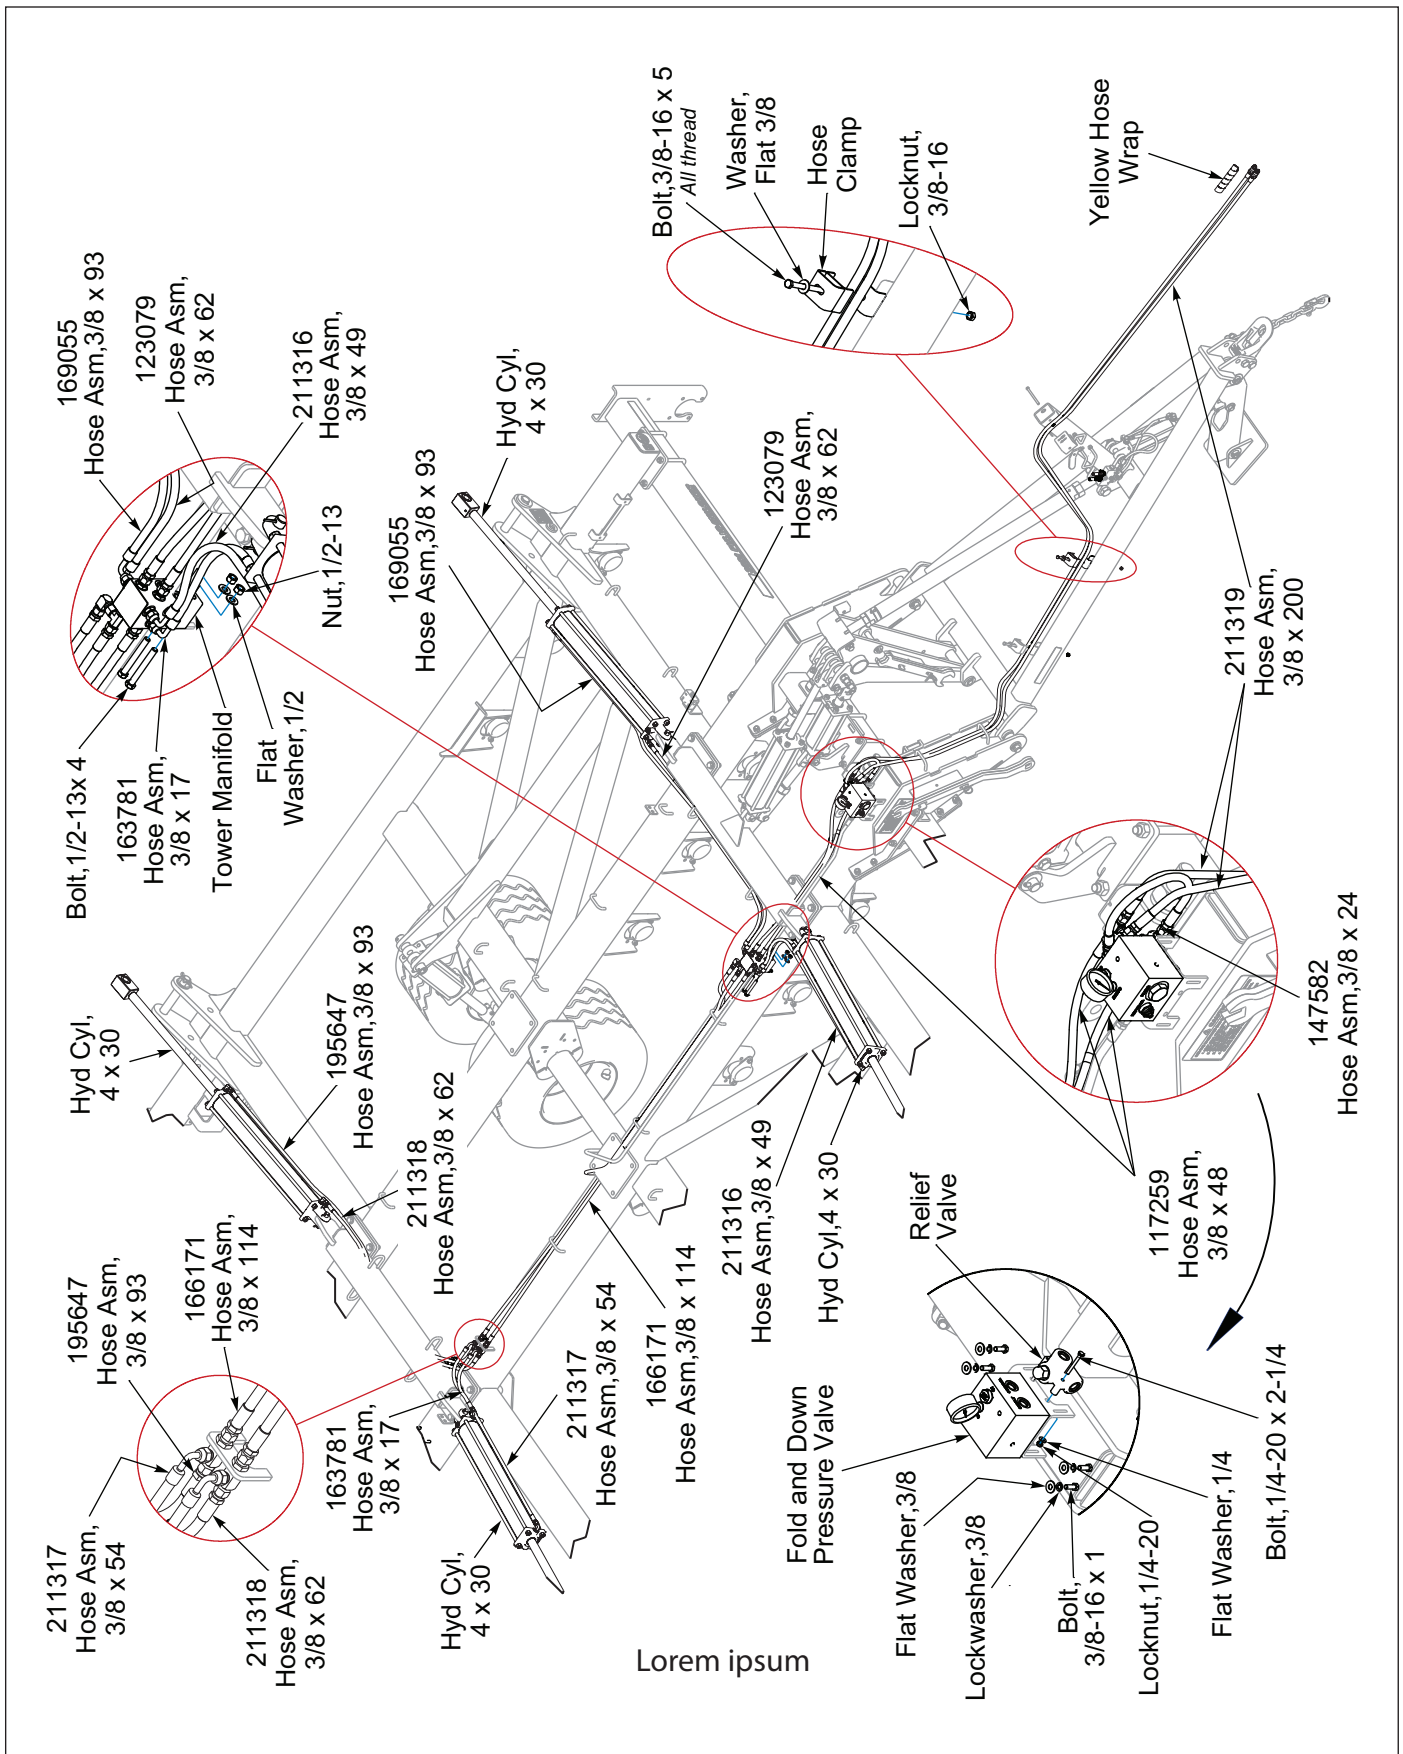

Figure 2-22: Fold Hydraulic Layout
2. **Fold Circuit - Yellow - See Figures 2-22, 2-23 and 2-24.** The Fold Circuit with wings folded, requires approximately 6.0 gallons of hydraulic oil and with wings unfolded, requires 7.2 gallons of hydraulic oil.
4. Install rear cylinder hoses to bulkhead and hoses from front of the bulkhead to tower manifold. **See Figures 2-22 and 2-23.**
9. Assemble Lifts on Wings. **See Figures 2-22 and 2-23.**